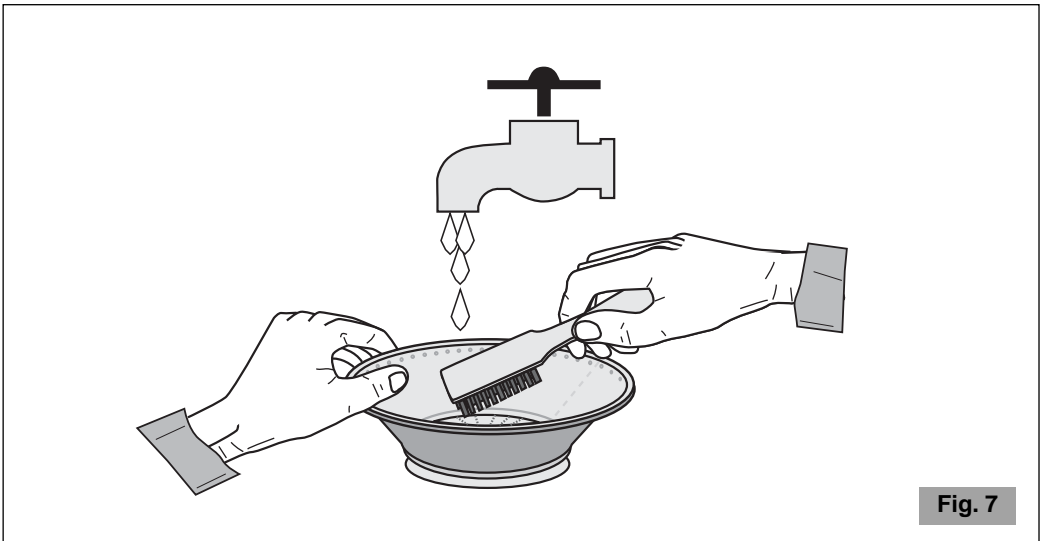

Fig. 7
- To obtain a higher yield of juice always control that the basket is well-cleaned by using the nylon brush provided. Put the basket under running water and use the brush to clean the inside of the strainer (see Fig. 7). Hold the basket up against the light to make sure that none of the perforations are blocked. Should the perforations of the strainer remain blocked, immerse the basket in a solution of hot water with 12% lemon juice or vinegar to loosen the blocked material. Alternatively, wash the basket in a dishwasher.
Pulp appears excessively wet and a low quantity of juice is produced.	<ul style="list-style-type: none"> <li>• Try to insert the fruit or vegetables more slowly and with less force.</li> <li>• Make sure that the basket is always carefully cleaned with the nylon brush provided. Put the basket under running water and use the brush to clean the inside of the strainer (see Fig. 7), holding the basket up against the light to make sure that none of the perforations are blocked. Should the perforations of the strainer remained blocked, immerse the basket in a solution of hot water with 12% lemon juice or vinegar to loosen the material that blocked them. Alternatively, wash the basket in a dishwasher.</li> <li>• Fruit too ripe.</li> </ul>